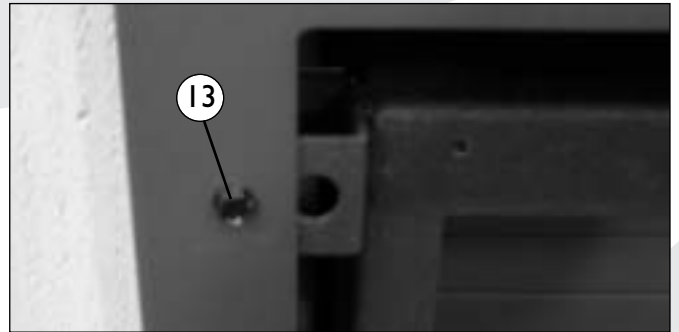

fig. 13
The frame and front are packed separately to the basic set. Fit the frame to the interior with the 4 self-tapping screws (13), ( figs. 13 and 14). Hang the front onto the interior with the hooks (14) (figs. 15 and 16).